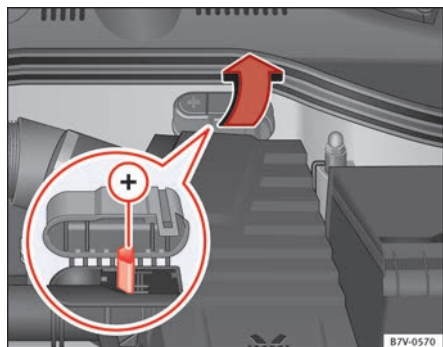
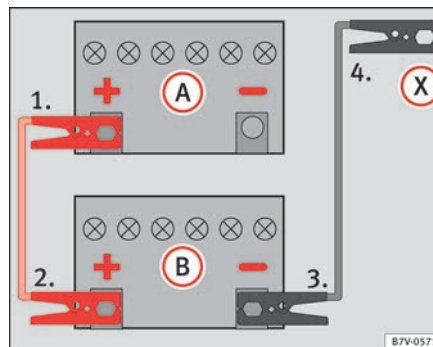

Fig. 215 In the engine compartment: positive pole for starting assistance (+).
Fig. 216 Jump lead connection diagram when the assistance vehicle does not have a Start-Stop system: flat battery (A) and battery supplying current (B).
- Likewise, open the battery cover in the engine compartment ⇒ page 288, or remove the positive pole cap from one side¹⁾, in the direction of the arrow ⇒ fig. 215.
- Connect one end of the *red* jump lead to the positive terminal ⇒ fig. 216 (+) or ⇒ fig. 215 (+) of the vehicle with the flat battery (A) ⇒ ⚠.
- Connect the other end of the *red* jump lead to the positive terminal (+) in the vehicle providing assistance (B).
- For vehicles **without Start-Stop system**: Connect one end of the *black* jump lead to the negative terminal (-) in the vehicle providing assistance (B) ⇒ fig. 216.